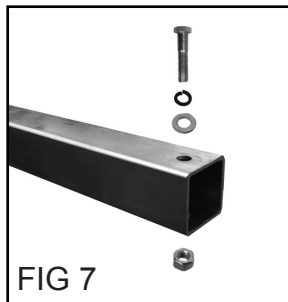

FIG 7
8. Insert the M8 hex bolt (12) to the end of the extension arm to prevent the electric winch from sliding off the end of the swing arm Fig 7.